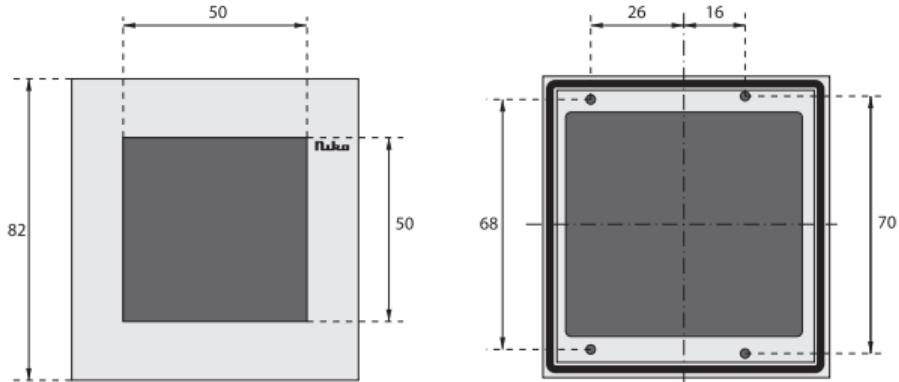

fig.6
- Place the mounting holes of the camera module over the screw threads (see also fig.6).